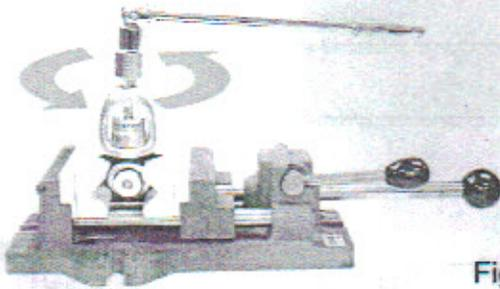

Figure 4
- 1) Remove yoke screw. With the first stage body stabilized in a bench vice with soft jaws, use the 1" yoke nut socket, a 3" long x 3/8" drive extension and breaker bar to loosen and remove the yoke retainer (fig. 4). The DIN assembly is loosened and torqued using a 6mm hex key soçket (fig. 5).